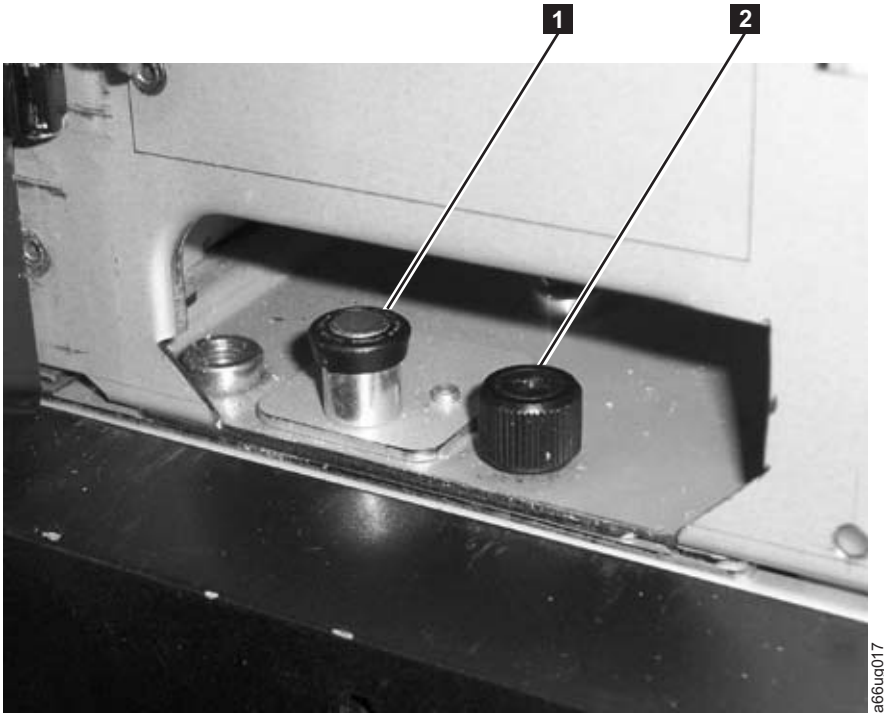

Figure 4-16. Module-to-Module alignment pin and front thumb screw
3. Ensure that the module-to-module alignment pin of the top module (**1** in Figure 4-16 on page 4-15) is in the raised position. If necessary, raise the pin and rotate it half a turn to lock it in the raised position.
9. Twist the upper module alignment pin (**1** in Figure 4-16 on page 4-15) to unlock it from the up position.
11. Tighten the front thumb screw (**2** in Figure 4-16 on page 4-15) and the thumb screw behind the I/O Station door to secure the front of the upper module to the lower module.